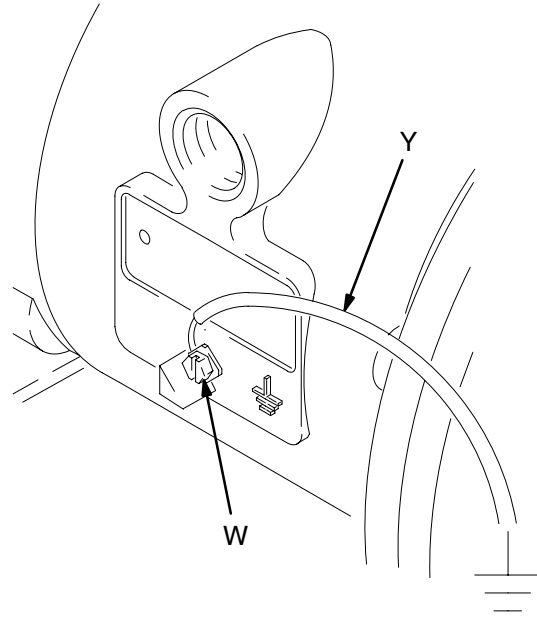

Fig. 1
- **Pump:** Connect a ground wire and clamp as shown in Fig. 1. Loosen the grounding screw (W). Insert one end of a 1.5 mm² minimum ground wire (Y) behind the grounding screw and tighten the screw securely. Connect the clamp end of the ground wire to a true earth ground. Order Part No. 819.0157 Ground Wire and Clamp.